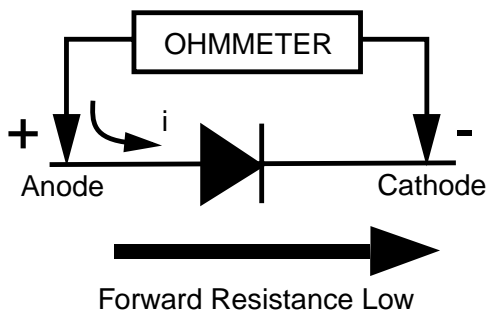

Figure E.2
3. Connect the ohmmeter across the diode in question as illustrated in Figures E.2 and E.3 below. Note polarity of ohmmeter in reference to diode.